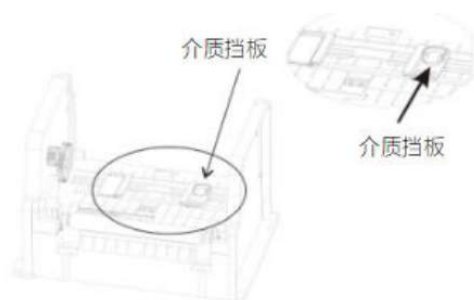

图10
2.7.5 如图 10，向箭头所指方向推动介质挡板锁定按钮，然后左右移动介质挡板。将介质放在介质挡板居中位置，然后向箭头所指方向推动介质挡板 锁定按钮同时，把介质挡板滑向中心位置，松手以后挡板会自动锁紧。保证介质处于介质挡板中心并不会左右移动。请不要用介质挡板挤压介质，否则会使介质弯曲，造成卡纸或进纸故障。
2.7.5 As shown in Fig. 10, push the media guide locking button in the direction of the arrow, then move the media guide left and right. Place the media in the center of the media guide, then push the media guide locking button in the direction of the arrow while sliding the media guide toward the center; after releasing, the guide locks automatically. Ensure the media is centered between the media guides and cannot move left or right. Do not squeeze the media with the media guides; otherwise the media will bend, causing paper jams or feed faults.